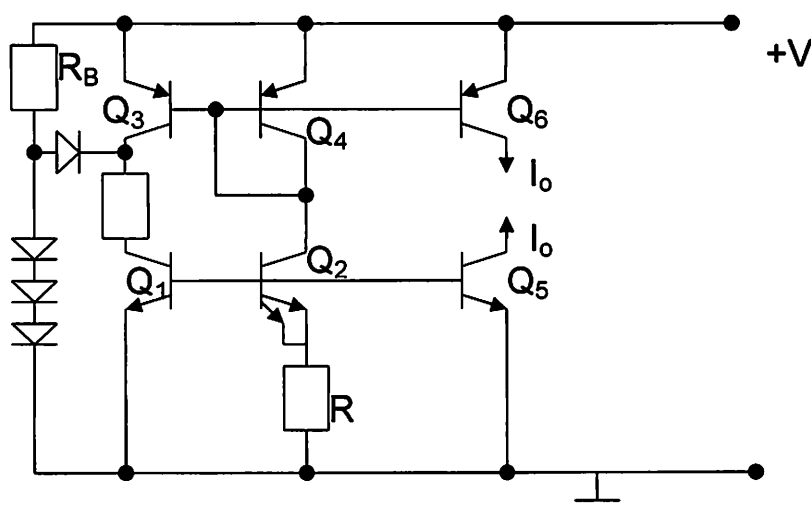

Figure 1.1
1. (a) Figures 1.1 and 1.2 show two constant current generators. What are the key differences between these two circuits? [4]
- (c) Calculate the fractional temperature coefficient for the constant current generator of Figure 1.1 at room temperature, given that R is a polysilicon resistor with a temperature coefficient of $1500 \text{ ppm}/^\circ\text{C}$. [6]
1. a) Figure 1.1 is a self biased PTAT - generates a current which is proportional to temperature.